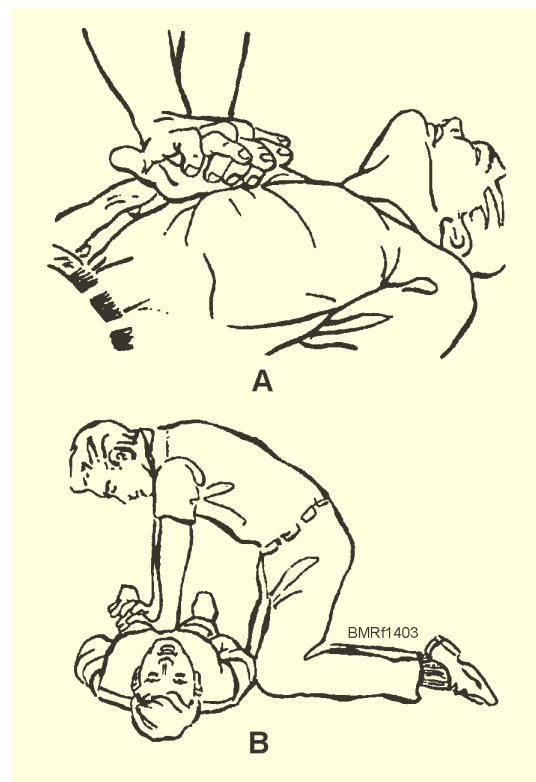

Figure 14-3.—Position for cardiac compression.
3. Place the heel of one hand directly on the sternum, and the heel of the other on top of the first. Figure 14-3, view A, shows this technique. Interlock your fingers, and **keep them off the victim's chest!**
4. Lean or rock forward with elbows locked, and apply vertical pressure to depress the sternum (adult) 1 ½ to 2 inches (fig. 14-3, view B).